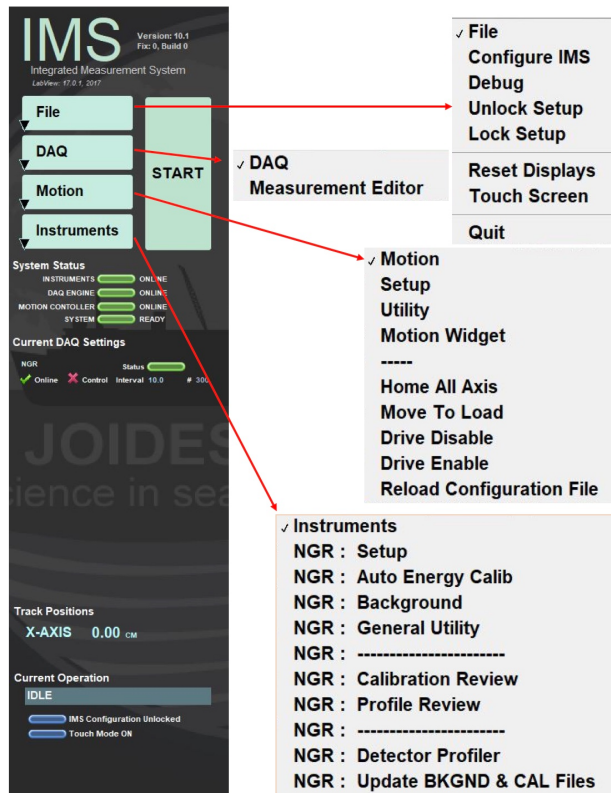
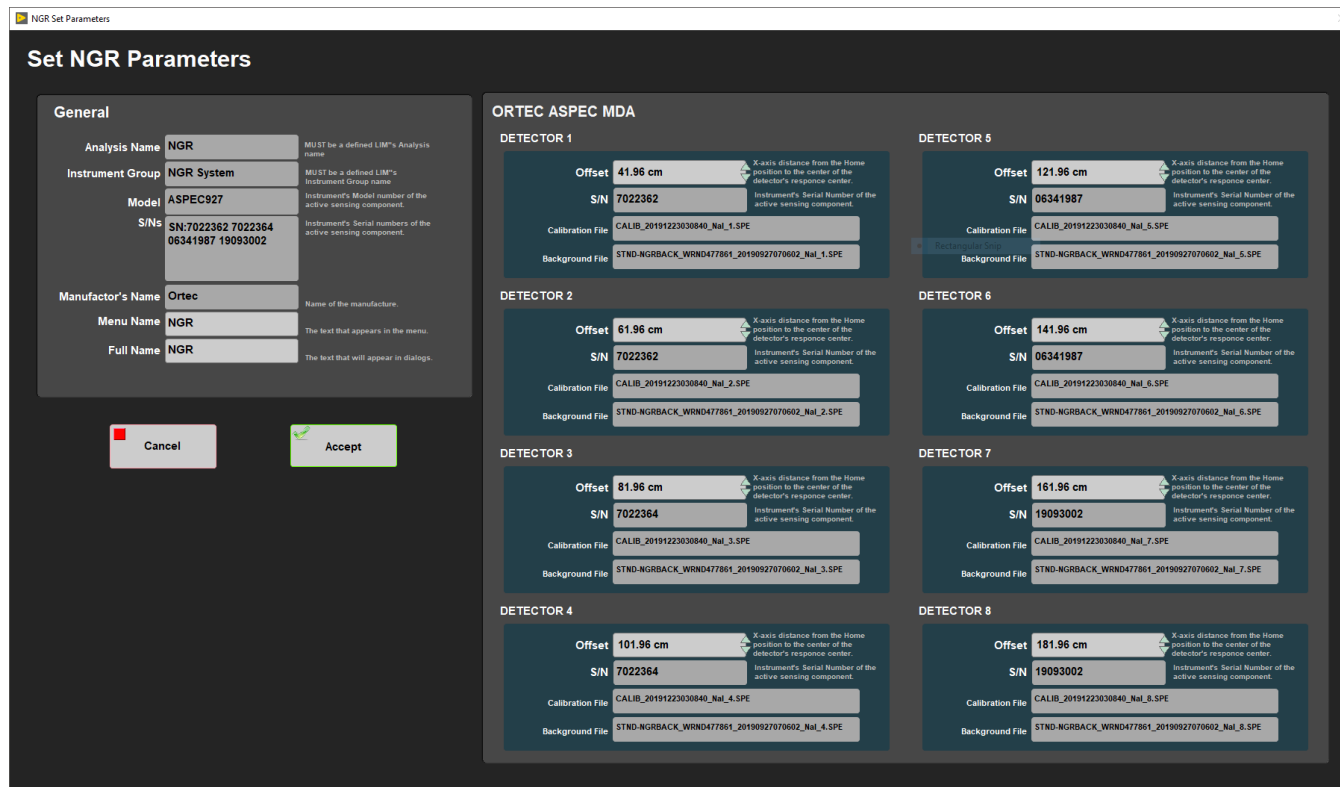

Figure 11: IMS Control Panel Drop down menus
Figure 20. NGR Parameters window
The NGR system, specifically, is built with one INST module (NGR), one MOTION module, and one DAQ Engine module. The IMS Main User Interface (IMS-UI) calls these modules, instructs them to initialize, and provides a user interface to their functionality. Each module manages a configuration file that opens the IMS program at the same state it was when previously closed and provides utilities for the user to edit or modify the configuration data and calibration routines. The five buttons on the IMS-UI window provide access to utilities/editors via dropdown menus as shown in Figure 11.
To open the NGR instrument setup window (Figure 20), select **Instruments > NGR: Setup** from the IMS panel menu (Figure 11).
1. Motion control should be set during initial setup and further changes should not be necessary. Motion control setup can be accessed by selecting **Motion > Setup** from the IMS panel menu (Figure 11).